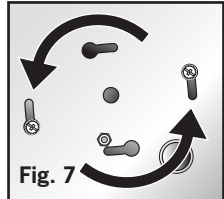

Fig. 7
- 5 Locate the key hole slots on the pan. The inner pair are set at a distance of 2-3/4 in. and will accommodate a small standard electrical box mount. The outer pair are set at a distance of 3-1/2 in. and will accommodate a standard electrical box mount. Position the fixture pan over the electrical box so that the machine screws protruding from the electrical box pass through the elongated keyholes in the fixture's pan. Once both screws are through the keyholes, twist the pan until both screws are up against the smaller end of the slot (Fig. 7). Hold in place and tighten the screws very tightly. The hardware kit includes two (2) long screws specifically for normal metal electrical boxes (E). Tighten the screws until the pan is tight up against the ceiling surface.